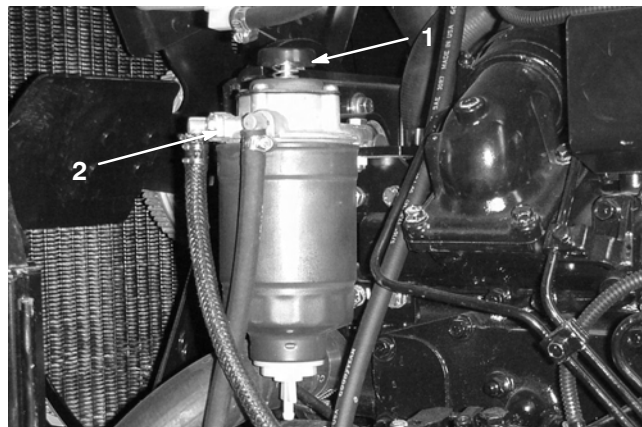

Figure 29
2. Rotate the priming pump (Fig. 29) counterclockwise until spring in pump assembly releases. Operate pump up and down until a solid stream of fuel flows out around filter plug and tighten plug.
3. Loosen the air vent plug on the fuel filter/water separator about 1-1/2 turns (Fig. 29). Operate priming pump until solid stream of fuel flows from the vent hole (Fig. 29), then tighten air vent plug.